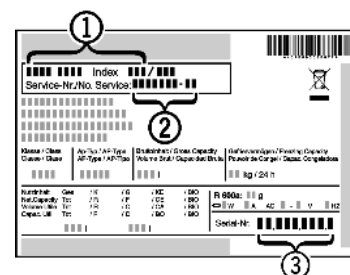

Fig. 8
- ▶ Read the appliance designation *Fig. 8 (1)*, service no. *Fig. 8 (2)* and serial no. *Fig. 8 (3)* from the rating plate. The rating plate is located inside the appliance on the left-hand side.
- ▶ Notify a qualified service provider, specifying the fault, appliance designation *Fig. 8 (1)*, service no. *Fig. 8 (2)* and serial *Fig. 8 (3)* no.